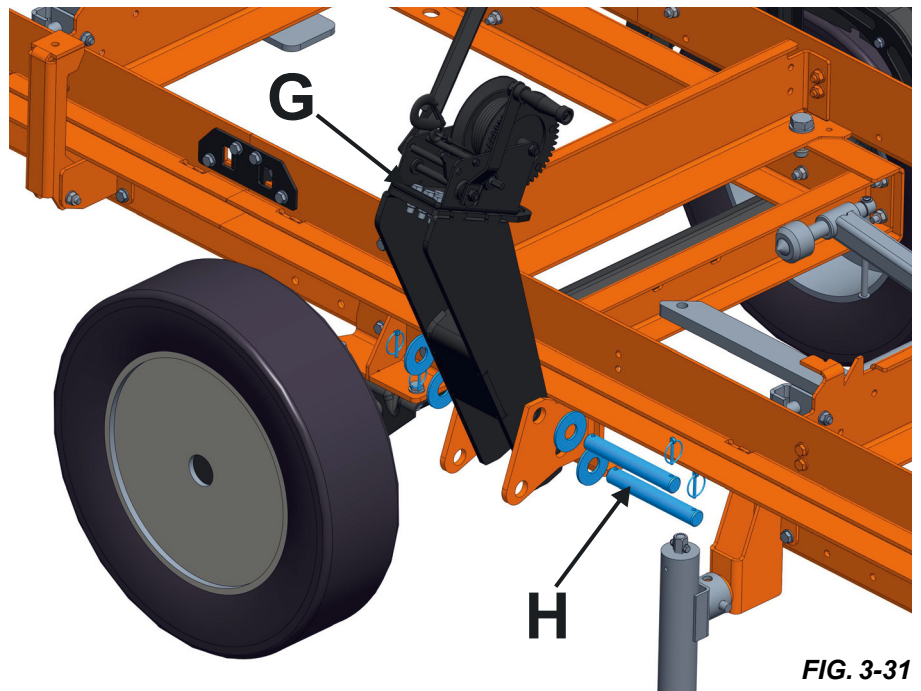

FIG. 3-31
3. Unbolt the 2 M8x75 bolts (B).
4. Mount the feed handle (C) in the holes below with the bolts (B) removed in step 3.
5. Install the chain removed in step 1. The feed handle adapted to the trailer should look as shown in the figure 3-31.